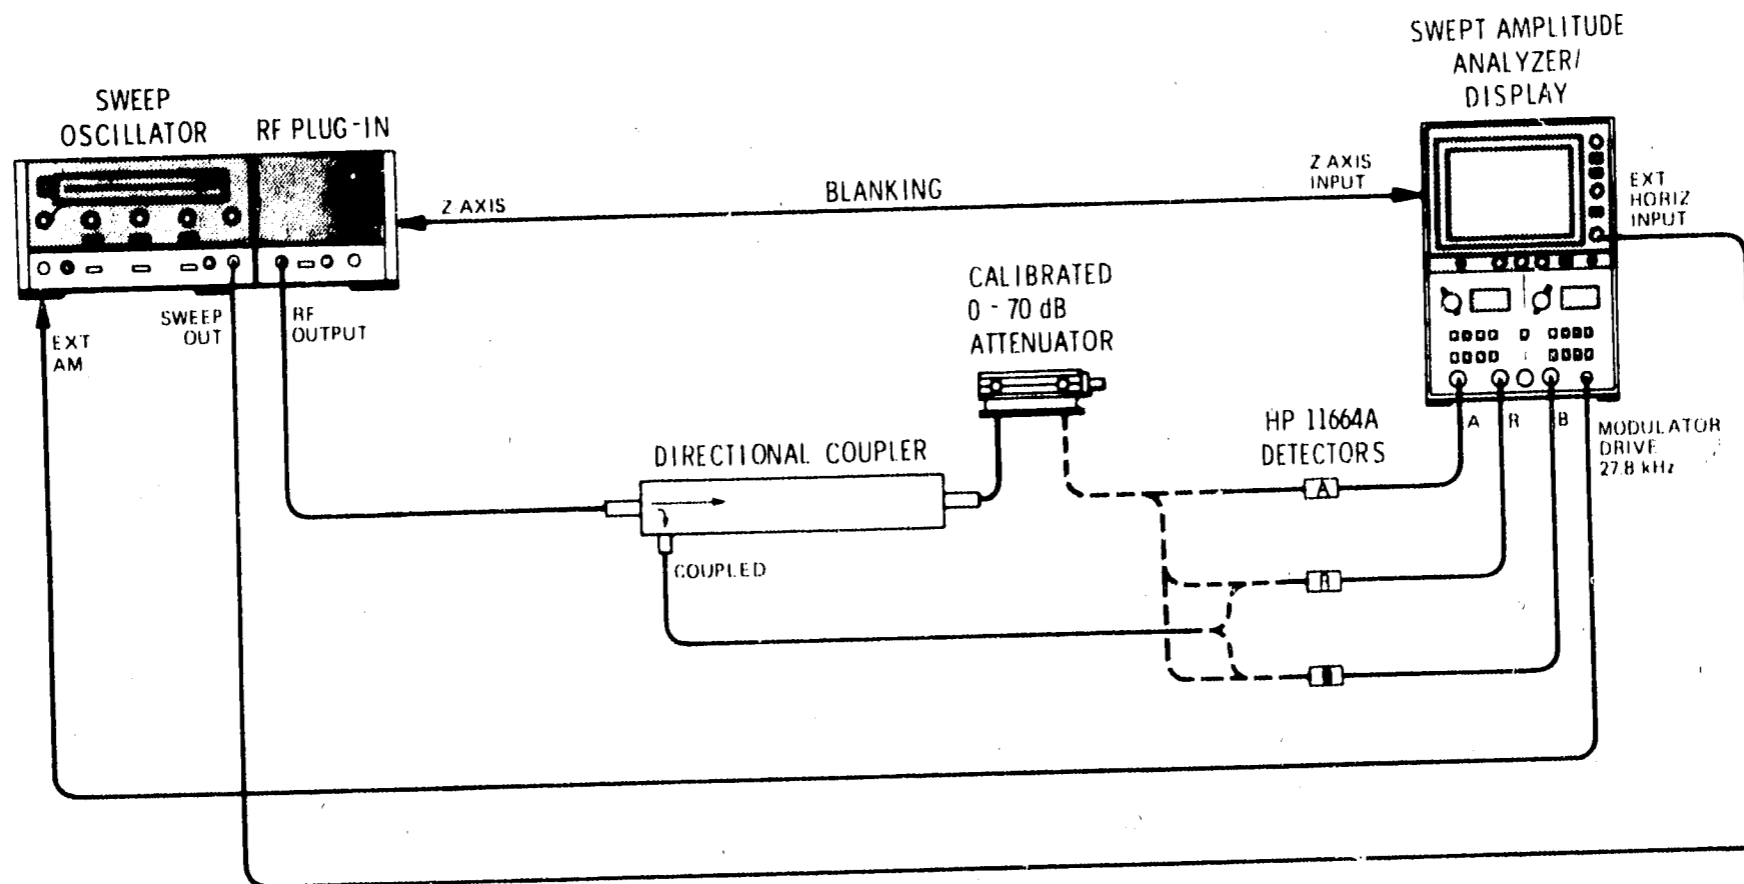

Figure 4-1. Amplitude Accuracy Test Setup
DESCRIPTION: The 8755B is connected as shown in Figure 4-1. An initial calibration of gain within the oscilloscope display is made. Then precision attenuators are used to vary the input level to the channel under test. With no attenuation, a reference level is set. Attenuators are then inserted in 10 dB steps and the resulting response is measured.
- a. Connect equipment as shown in Figure 4-1 with detector R connected to incident coupled port of directional coupler and detector A connected to 0-60 dB attenuator. Set 0-60 dB attenuator to zero dB.